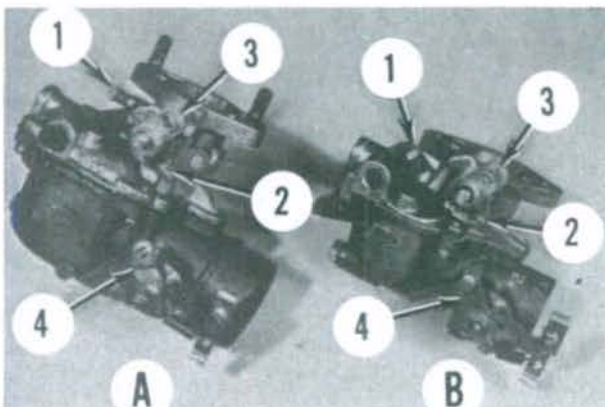

Fig. 43—Carburetor (A) is Zenith 13795 used on MF235 and MF245 models. Carburetor (B) is Zenith OE3435 used on MF230 models.
46. ADJUSTMENT. Zenith carburetors are used on all models. The smaller OE3435 carburetor (B—Fig. 43) is used on MF230 models, while 13795 is used on MF235 and MF245 models. Initial setting of idle mixture needle (1) is 2 to 2-1/2 turns open from closed position on the smaller carburetor, 5/8 to 3/4 turn open for the larger 13795 carburetor (A). Final adjustment should be made with engine operating at normal temperature. After mixture is correctly set, adjust low idle speed to 725-775 rpm for all models.
47. OVERHAUL. Zenith OE3435 carburetor used on MF230 model tractors is smaller and slightly different than the 13795 carburetor used on MF235 and MF245 model tractors. Refer to Fig. 43.
speed stop screw (2—Fig. 43) to obtain correct idlespeed of 725-775 rpm. Adjust mixture needle to obtain highest smoothest idle, then readjust idle speed if necessary.